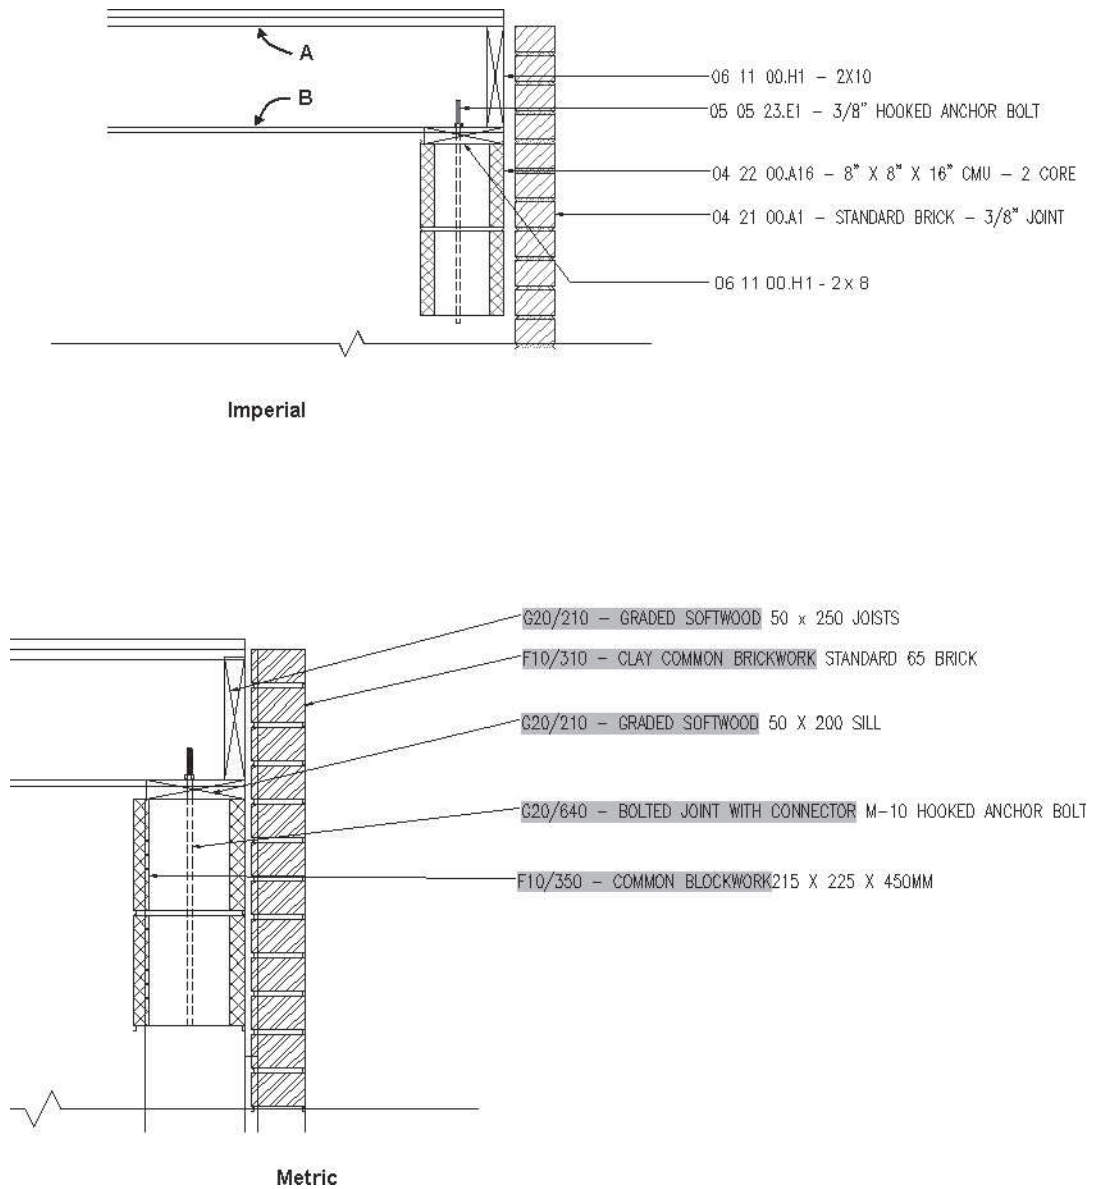

FIGURE 12.99 Detail components
36. Place the following detail components as shown in Figure 12.99.